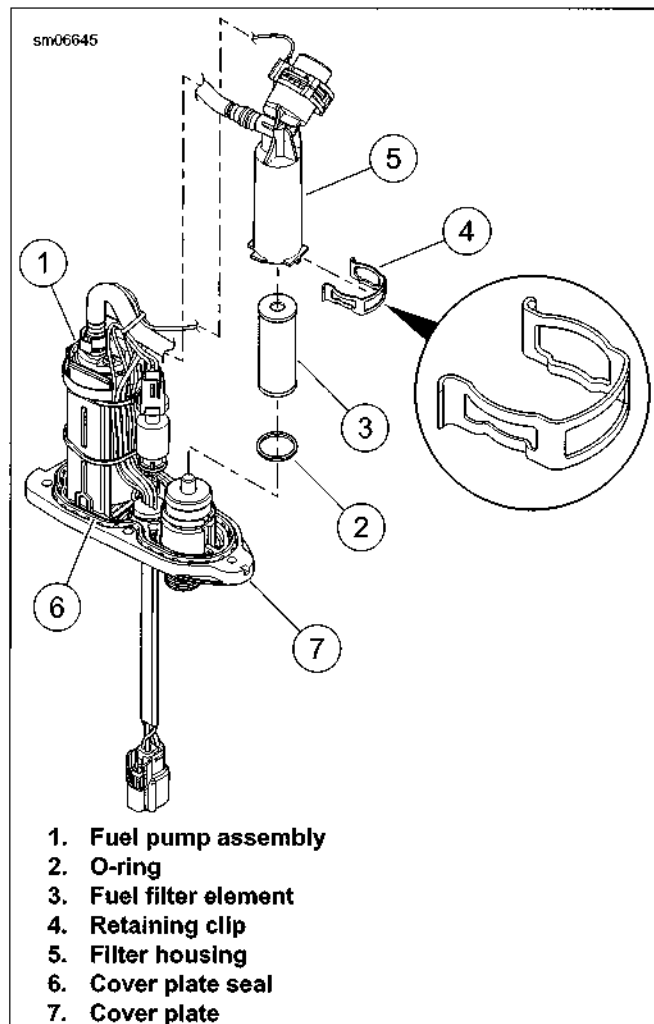

Figure 4-50. Replacing Fuel Filter Element
6. See Figure 4-50. Remove and discard cover plate seal (6).
7. Remove retaining clip (4).
8. Lift filter housing (5) off fuel pump assembly (1).
9. Remove and discard filter element (3).
1. See Figure 4-50. Install a new O-ring (2).
2. Install new filter element (3) into filter housing (5).
3. Install filter housing onto base of fuel pump assembly (1). Secure with retaining clip (4), making sure that clip is oriented right side up, exactly as shown in the figure.
4. Install new cover plate seal (6) into groove in cover plate (7).